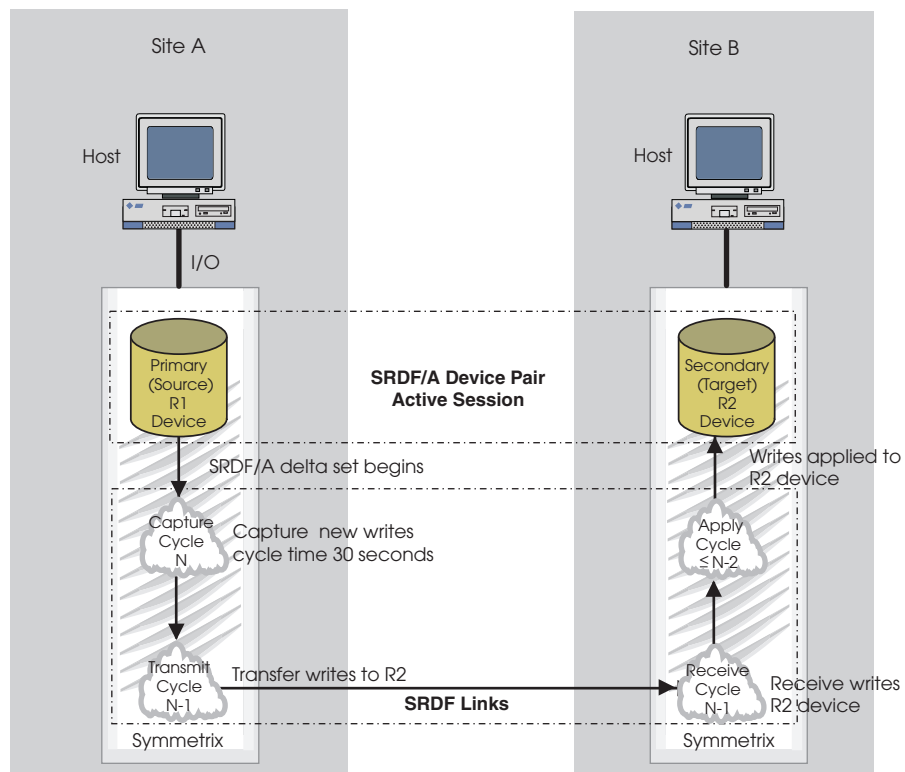

Figure 4-1 SRDF/Asynchronous
Different from traditional ordered write approaches, Symmetrix systems implement asynchronous mode host writes from the primary (source) to the secondary (target) using predetermined timed cycles (delta sets). Each delta set contains groups of I/Os for processing, which are managed for consistency by the Enginuity operating environment. Using cycles of operation, SRDF/A transfers sets of data, one cycle at a time, between the R1 and the R2. If the same track is written to more than one time within an active cycle on the R1 side, SRDF/A sends the update over the SRDF link only once. This approach lowers the required link bandwidth as compared with other ordered write processing approaches, which transfer each and every write separately. Refer to Figure 4-1 for a depiction of the SRDF/A delta sets.
Dependent write consistency is achieved through the processing of three ordered SRDF/A delta sets (cycles) between the primary (source) R1 and the secondary (target) R2 (Figure 4-1). Dependent write consistency ensures that all writes to the R2 are processed in sequential cycles to maintain a consistent copy of data between the R1 and the R2.
When the first SRDF/A cycle (N) is active, it collects any new writes into the capture cycle on the R1, overwriting any duplicate data intended for data transfer over the link. The cycle is active for a predetermined minimum amount of time (which the EMC Customer Engineer can configure on the Symmetrix system). The default time is 30 seconds. After the minimum time has been reached, the cycle becomes the transmit cycle ($N-1$) and begins transferring the delta set over the SRDF link into the receive cycle ($N-1$) of the Site B (Figure 4-1). The new cycle N then begins collecting new writes.